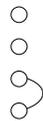

Figure 8A
- 2) The lower jumper should be installed, as shown in figure 8A.